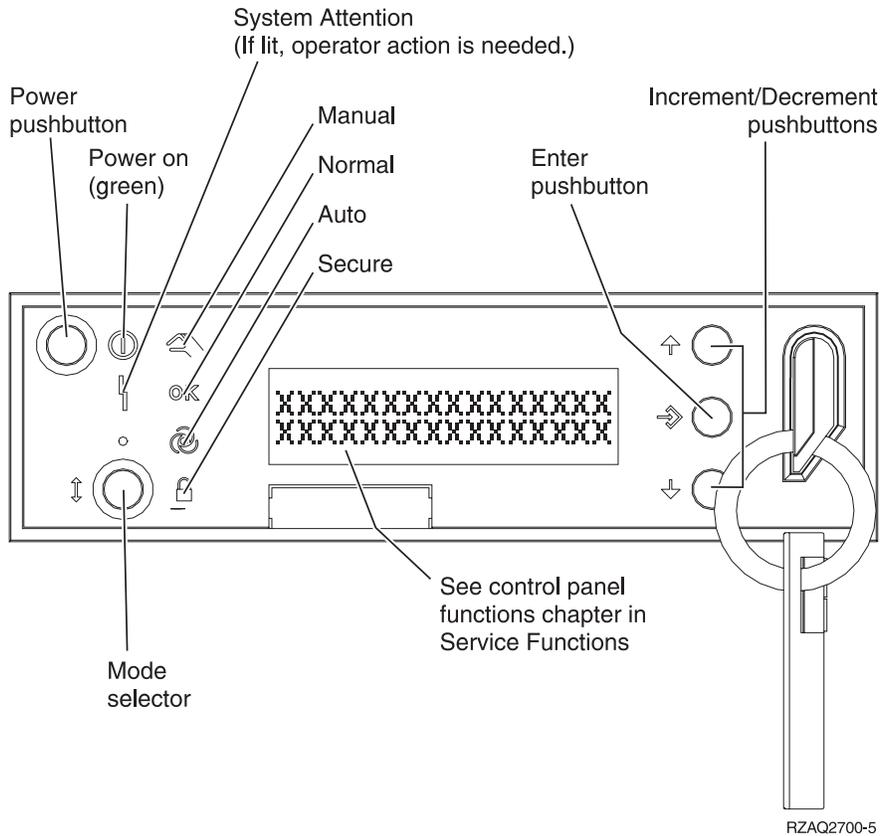

Figure 6. Model 820 Control Panel layout with keystick
2. For SRCs appearing on the control panel, the first 4 characters represent the SRC type and the second 4 characters represent the URC. For SRCs appearing in the Product Activity Log or on other software displays, use characters 1 through 4 of word 1 for the SRC type and characters 5 through 8 of word 1 for the URC. See Figure 6 on page 60 for the Control Panel layout.